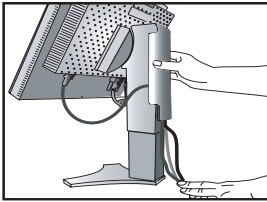

Figure 8
7. Slide the Cable Cover back into its correct position (Figure 8).